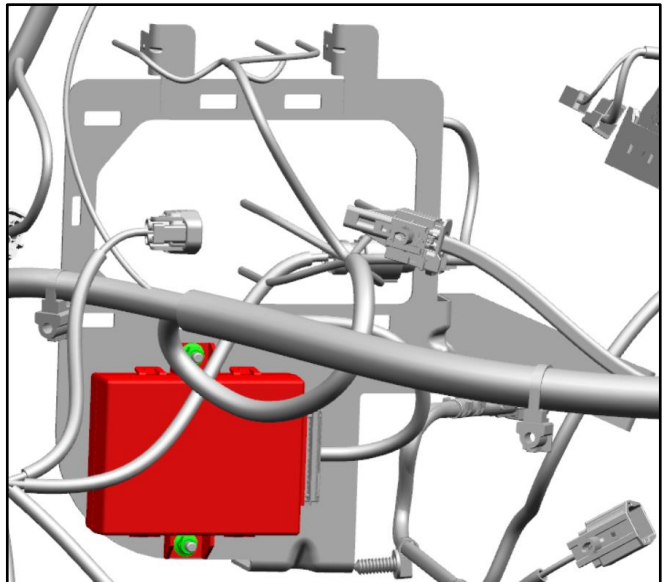

Figure 11
20. Remove the two nuts that attach the latch module for the boot lid to the bracket for the rear fuse box. (Refer to Figure 11.)